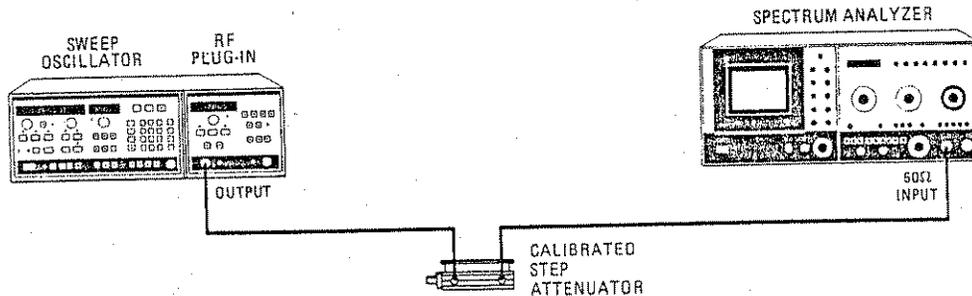

Figure 4--19. Attenuator Accuracy Test Setup
1. Connect equipment as shown in Figure 4--19. Press 8350A [INSTR PRESET],[CW] [4] [GHz]. Set the 83592A POWER LEVEL to +7 dBm.